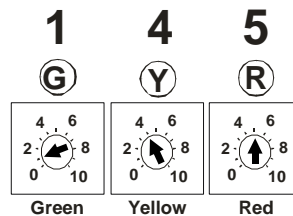

FIGURE 5
12. Before reinstalling the fuel tank bolts and the seat, verify your connections. Remove the door from the Fi2000 box to expose the LED's. The pot settings on the Fi2000 must be set to match the proper intake and exhaust configuration - Refer to Figure 5 and the **Advanced Tuning** section below to determine the proper configuration. Once the proper pot setting have been chosen set the pot dials using a small flat blade screwdriver.
13. Verify the wire connections by (1) turning the ignition on, prior to starting, and see if all three LED's are on steady. If you have no light, your ground connection (BLACK wire) has not made proper contact or the injector connections are not complete. (2) After achieving a steady light from all three LED's, start the motorcycle, wait 15 seconds and let it idle, the green light should now be the only LED on. If all three LED's are still on after start up, verify you have attached the injector connectors correctly. Reattach the door when finished. **Note:** Make sure the ignition is turned off before changing any connection.
Your Fi2000 fuel injection module has been tested and preset for best function and rideability on a motorcycle with aftermarket aircleaner and an aftermarket performance slip-on mufflers. If you motorcycle has a different intake and exhaust configuration please choose the appropriate pot setting in Figure 5, and change the pot dials to these settings. Remove the door to expose the pots shown in Figure 5. The Fi2000 does have 3 important adjustments that allow you to tune the module for optimum performance, especially if you have performed other changes to your motorcycle. These adjustments also allow you to resolve drivability issues if our stock settings are not exactly right for your bike. Make sure your motorcycle is up to normal operating temperature (15 minutes of riding should be sufficient) before making any adjustments.